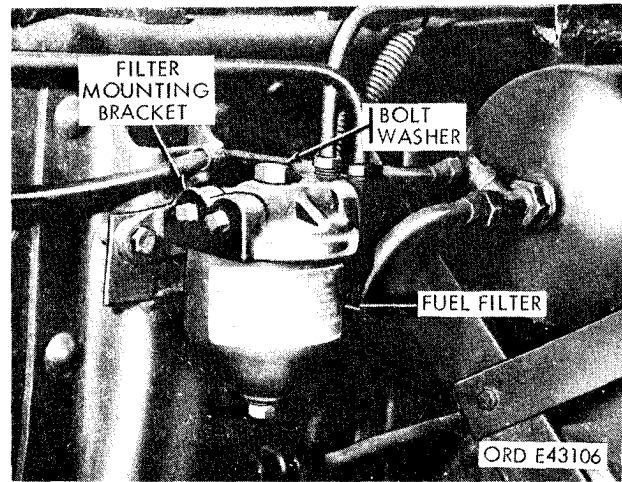
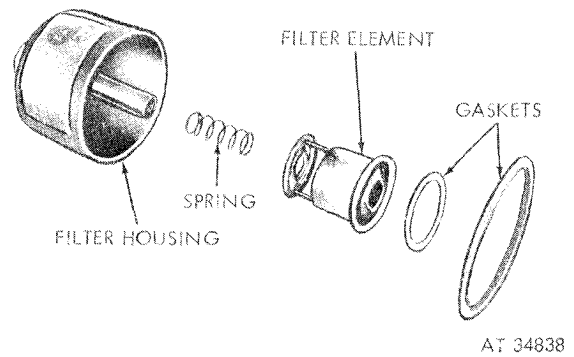

Figure 2-95. Fuel filter—diesel models.
Figure 2-96. Fuel filter—exploded view.
- (1) *Removal.* Remove the bolt and lockwasher securing the filter to mounting bracket (fig. 2-95). Remove the filter assembly, and pull the two gaskets, element, and spring out of the housing (fig. 2-96). Discard the gaskets.
- (2) *Installation.* Position the spring, element, and smaller element gasket in the housing (fig. 2-96). Place the larger housing-to-bracket gasket into position, and secure the filter assembly to the mounting bracket with the washer and bolt (fig. 2-95).